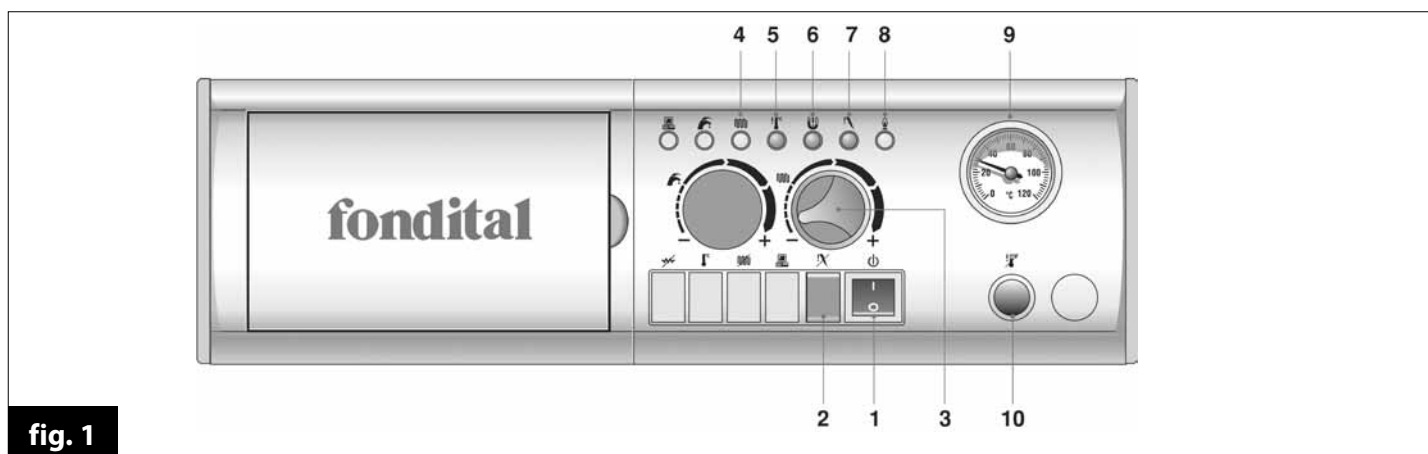

fig. 1
1.2 Operating the boiler (fig. 1)